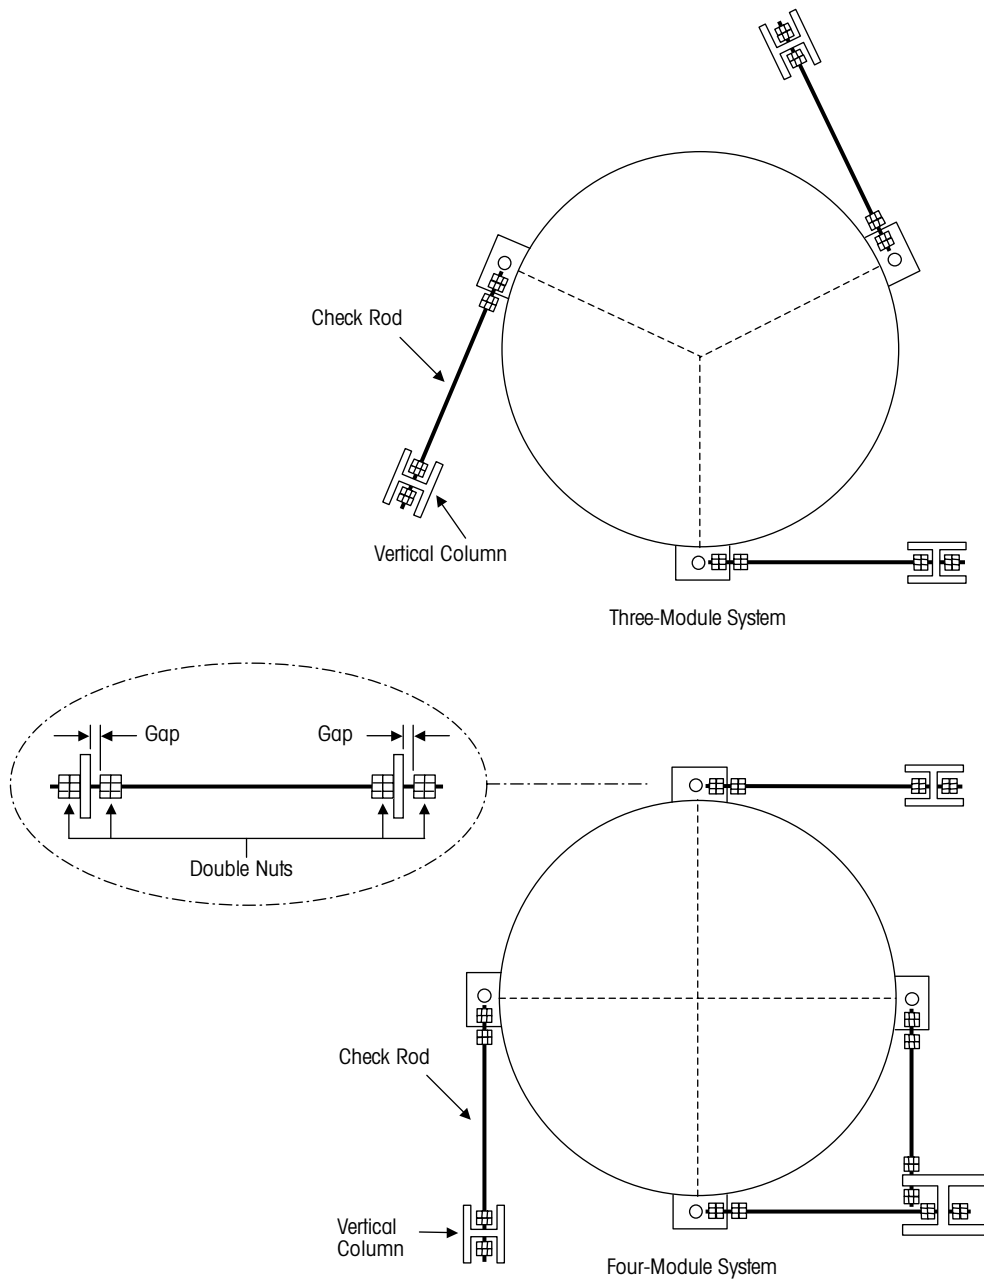
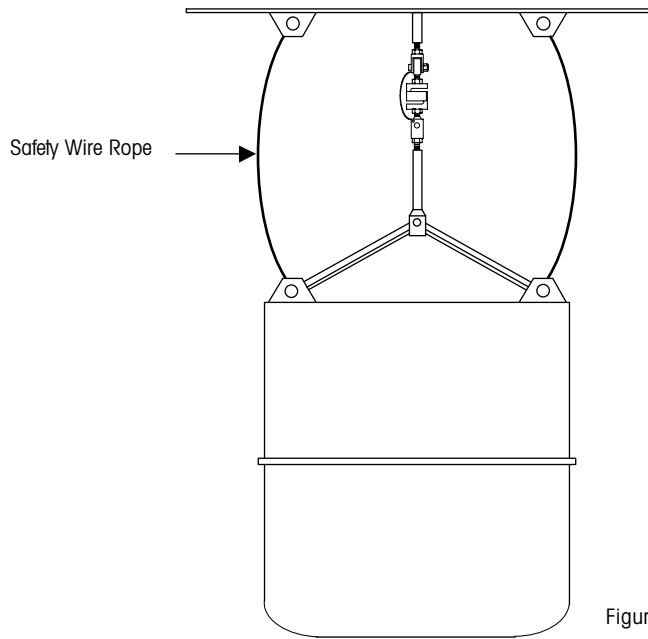

Figure 7-6: Plan View of Check Rods for Systems with Three and Four Weigh Modules
Figure 7-8: Sample Tension Weigh Module Installation
8. If the suspended tank is subject to horizontal movement, install check rods or bumper bolts to limit horizontal movement. Figures 7-6 and 7-7 show typical arrangements. Note these are intended to limit gross movements of the scale, they are not intended to stabilize vibrating scales. Figures 7-8, 7-9, and 7-10 show typical tension weigh module installations.